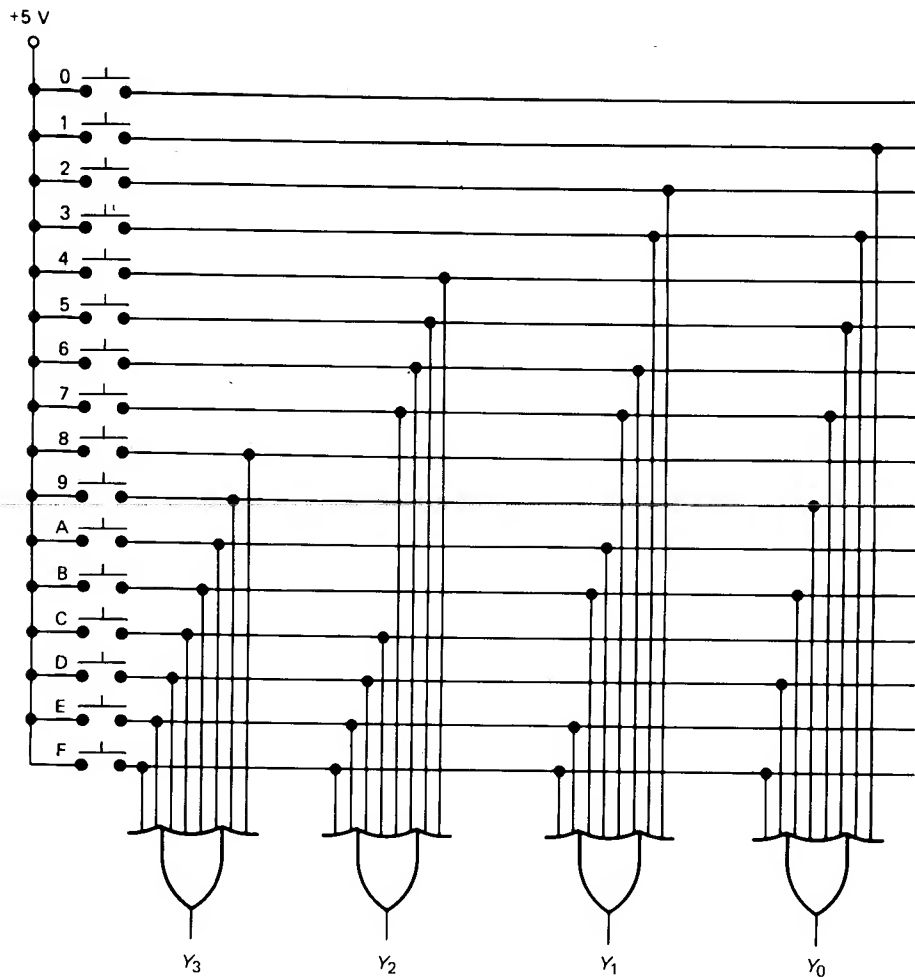

Fig. 2-18 Hexadecimal encoder.
- 2-6. Figure 2-18 shows a hexadecimal encoder, a circuit that converts hexadecimal to binary. Pressing each push-button switch results in a different output word $Y_3Y_2Y_1Y_0$. Starting with switch 0, what are the output words? (NOTE: The new symbol in Fig. 2-18 is another way to draw an OR gate.)
- 2-7. In Fig. 2-18 what switches would you press to produce
- 2-8. What is the 4-bit output in Fig. 2-18 when switch A is pressed? Switch 4? Switch E? Switch 6?